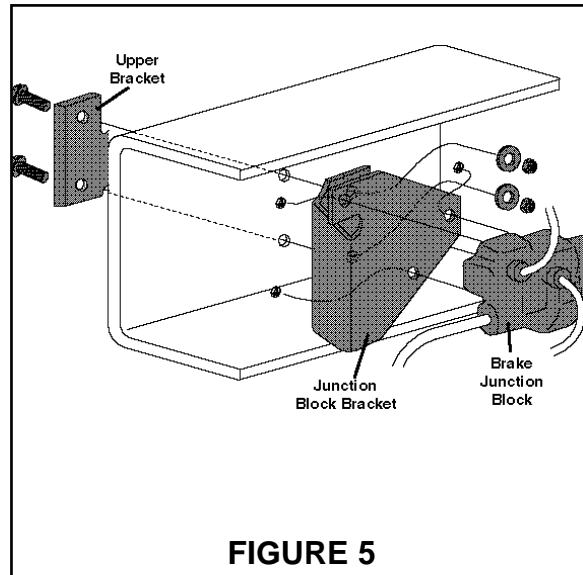

FIGURE 5
1. Jack up front of vehicle or raise on hoist and remove front wheels. If there is a brake injunction block on the inside of the driver side frame rail, unbolt and pull valve out of the way. Save existing nuts for later use (Figure 5).
5. **NOTE:** If you had a brake injunction block use existing nuts, attach to bracket supplied. Then using upper bracket mounting hardware attach upper bracket and brake bracket as an assembly (SEE Figure 5). Install the upper bracket onto frame rail with the provided 3/8 bolts, washers, and locknuts and tighten 20 ft-lbs (Figure 1).